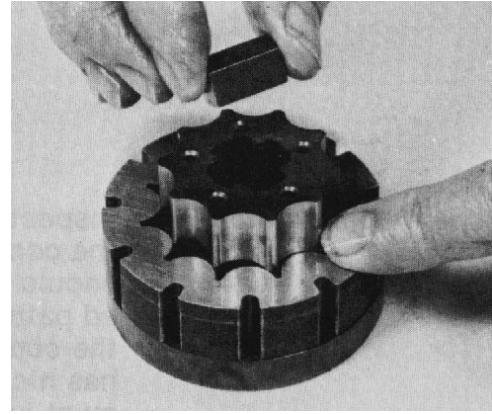

Figure 50
34. Remove the drive link spacer (Fig. 50). Replace it if it is grooved or worn.